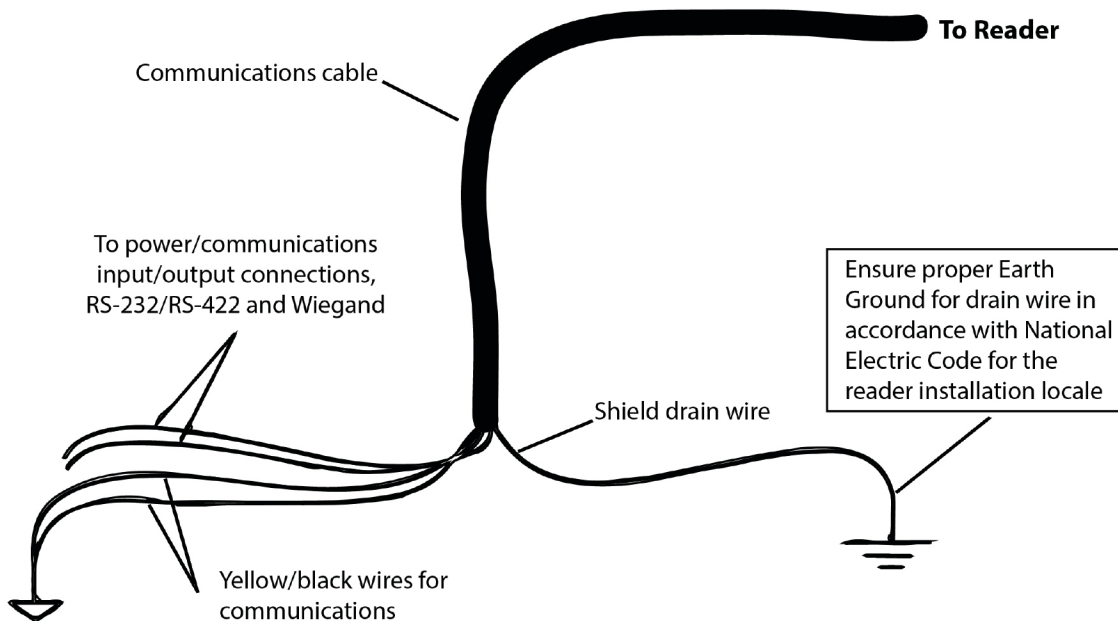

Figure 2 Recommended Reader Grounding
Ground the reader following the recommended grounding shown in Figure 2.
*For reliable reader operation, ensure that the reader is connected to Earth Ground. Connect the cable shield of the communications cable to Earth Ground. TransCore **strongly** recommends following the National Electric Code for lightning protection for the locale where the Encompass 4-S Reader is installed. Refer to “Figure 2 Recommended Reader Grounding” on page 16.*